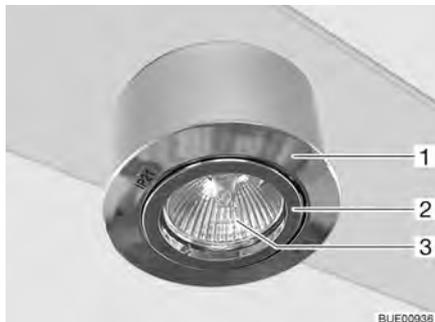

Fig. 208 Recessed halogen light (swivelling)
The recessed halogen light (Fig. 208,1) is installed flush with the ceiling lamp.
- Turn and remove the inner ring (Fig. 208,2).
- Remove halogen bulb (Fig. 208,3).